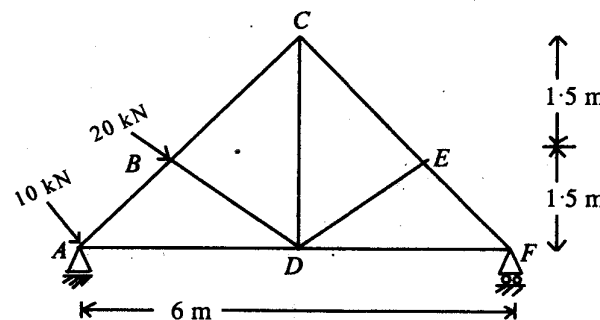

Fig. 1
1. Find the forces in the truss members shown in Fig.1. 20